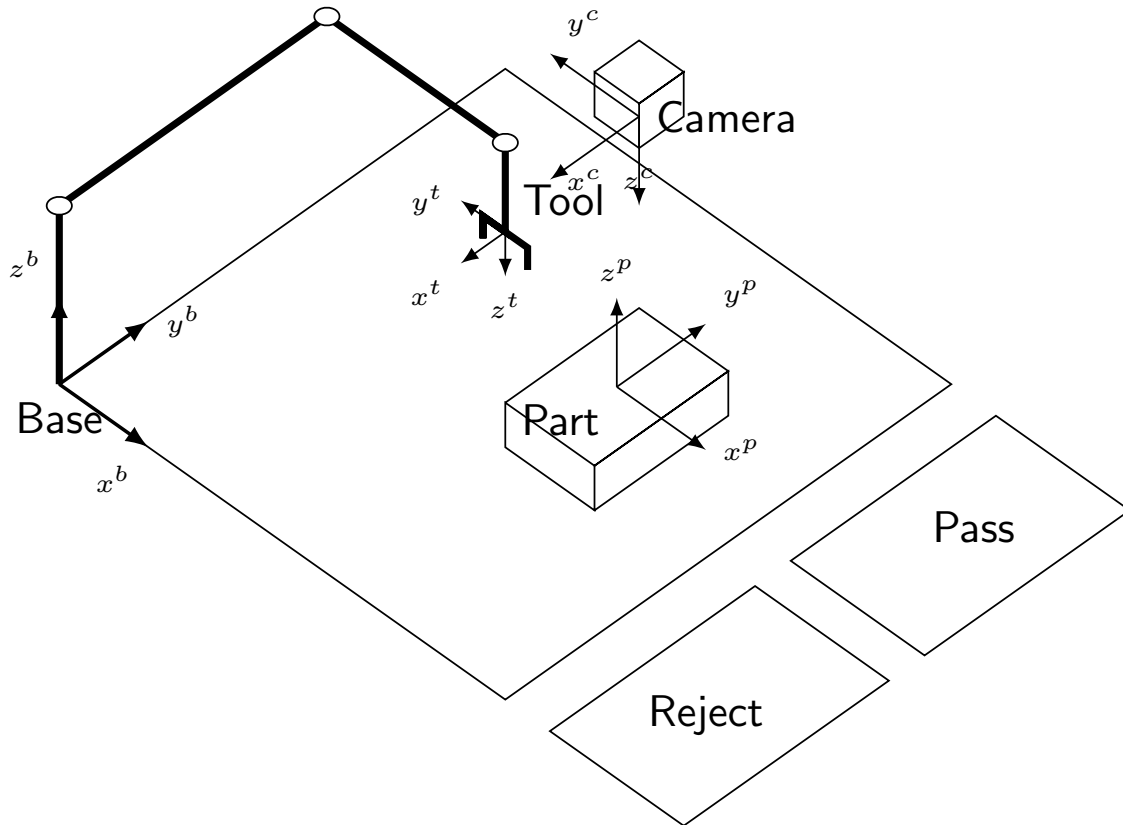

Figure 3: A robot workspace.
**Task 3.3 (4 points) Grasping from Camera:** Figure 3 shows the workspace of a robot manipulator. Objects transported on a conveyor belt are evaluated by the vision system (a camera) and based on the results of the evaluation the manipulator is used to place the object into either the "Pass" or the "Reject" area.